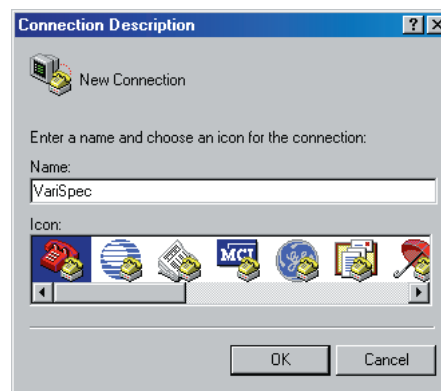

Figure 29. Connection Description
3. The **Connection Description** window (Figure 29) will appear. Enter a name and click **OK**.